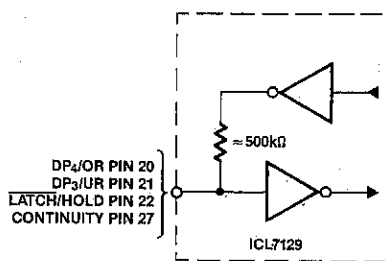

Figure 7. "Weak Output"
Four of the pins of the ICL7129 can be used as either inputs or outputs. The specific pin numbers and functions are described on the Pin Assignments and Functions (Table 1). If the output function of the pin is not desired in an application it can easily be overridden by connecting the pin to  $V^+$  (HI) or DGND (LO). This connection will not damage the device because the output impedance of these pins is quite high. A simplified schematic of these input/output pins is shown in Figure 7. Since there is approximately  $500k\Omega$  in series with the output driver, the pin (when used as an output) can only drive very light loads such as 4000 series, 74CXX-type CMOS logic, or other high input impedance devices. The output drive capability of these four pins is limited to  $3\mu A$ , nominally.